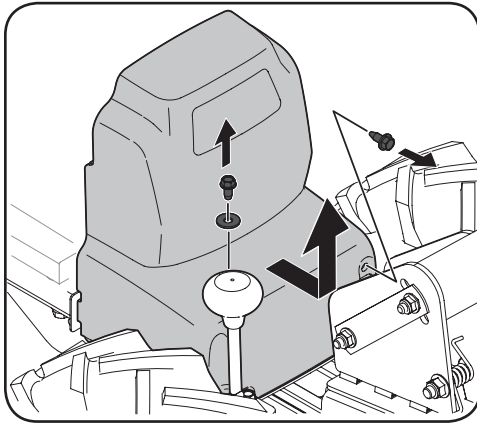

Figure 5-3
2. Remove the belt cover as seen in Figure 5-3, by first removing the two hex washer screws and one flat washer. Lift the belt cover up and away from the tiller and set in a safe location until reinstallation.